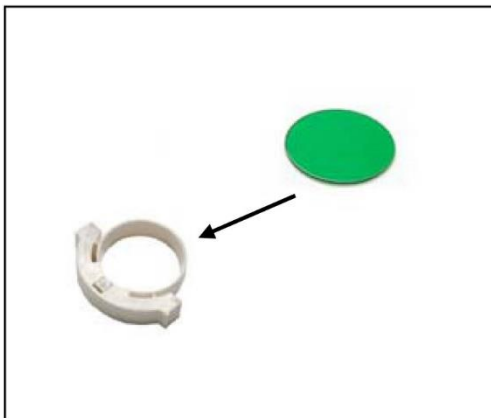

Figure 23
3.4.1. Using color filter (Figure 23)